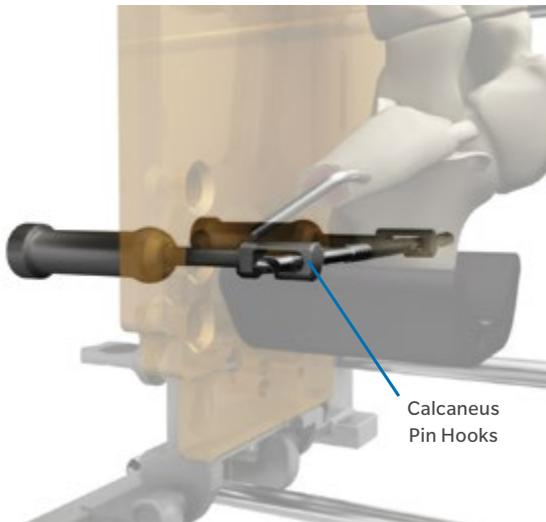

Fig. 20a
- The hooks should engage on the pin without applying an upward or downward force (Fig. 20a).